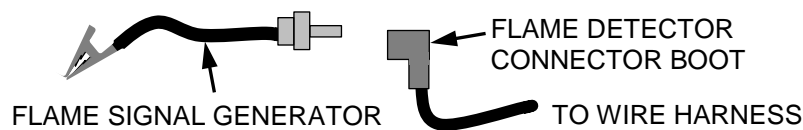

Figure 5-7: Connecting the Flame Signal Generator
- b) Push the **BACK** button three (3) times to return to the upper level menu.
- c) When the Controller gets into the ignition phase, the control panel will show **IGNITION TRIAL**. At that point attach the alligator clip (see Figure 5-7) to any bare metal surface or ground. The C-More Controller display should now show **FLAME PROVEN** and begin to ramp up to 100% fire rate. Note that no gas or flame is present in the boiler at this time.